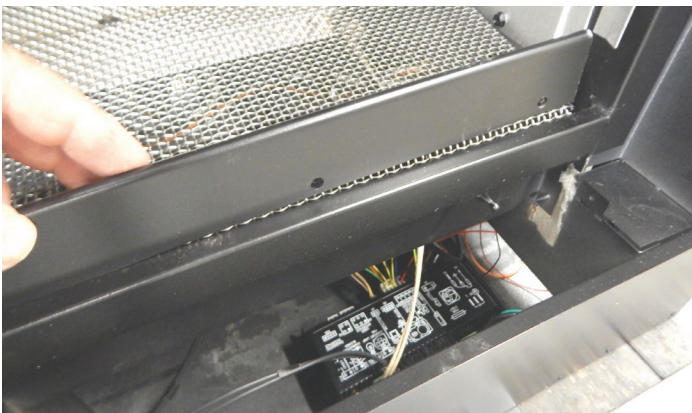

Figure 1
4. Remove the Front Glass Retainer by simply lifting upward and set aside. **See Figure 1.**